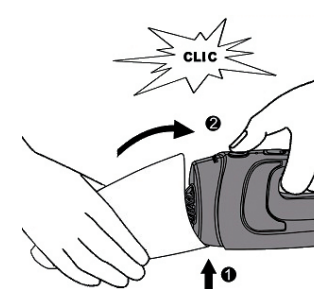
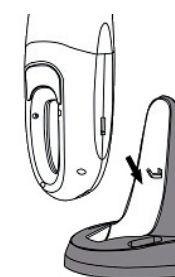

Figure 10
Figure 11
8. Replace the container on the motor unit until it clicks into place (Fig. 10) and put the appliance back on its charging base (Fig. 11).